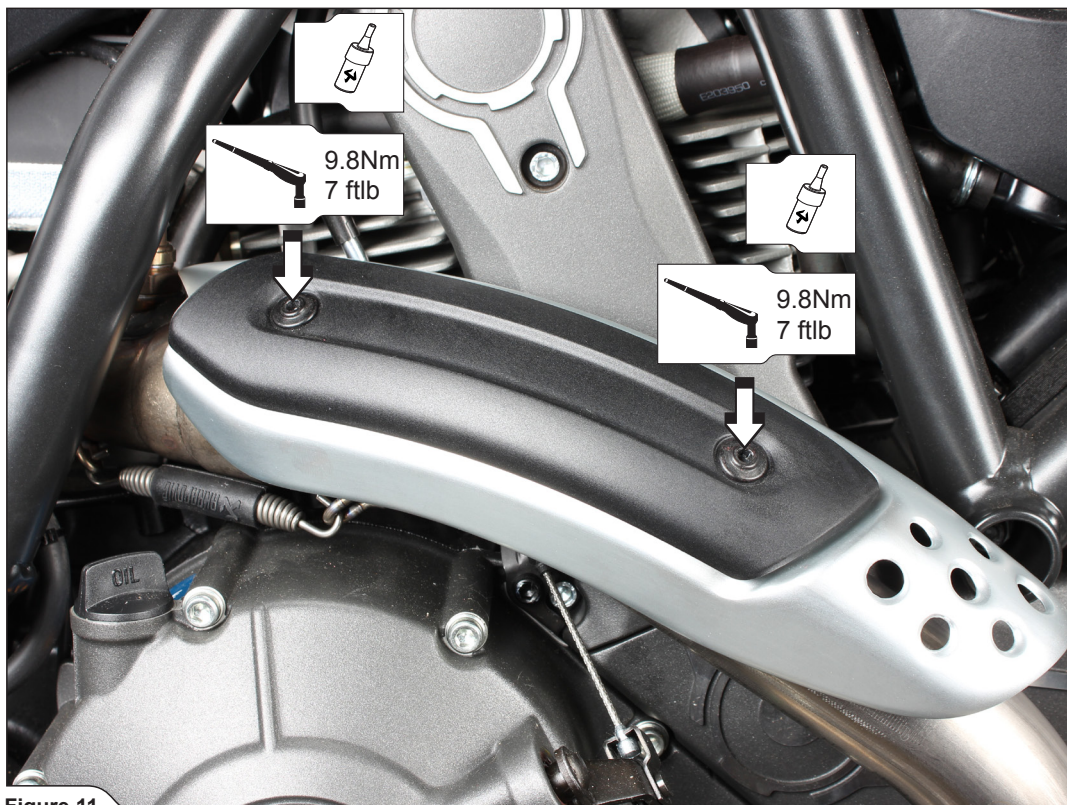

Figure 11
5. Install the outer heat shield, using stock bolts (Figure 11).